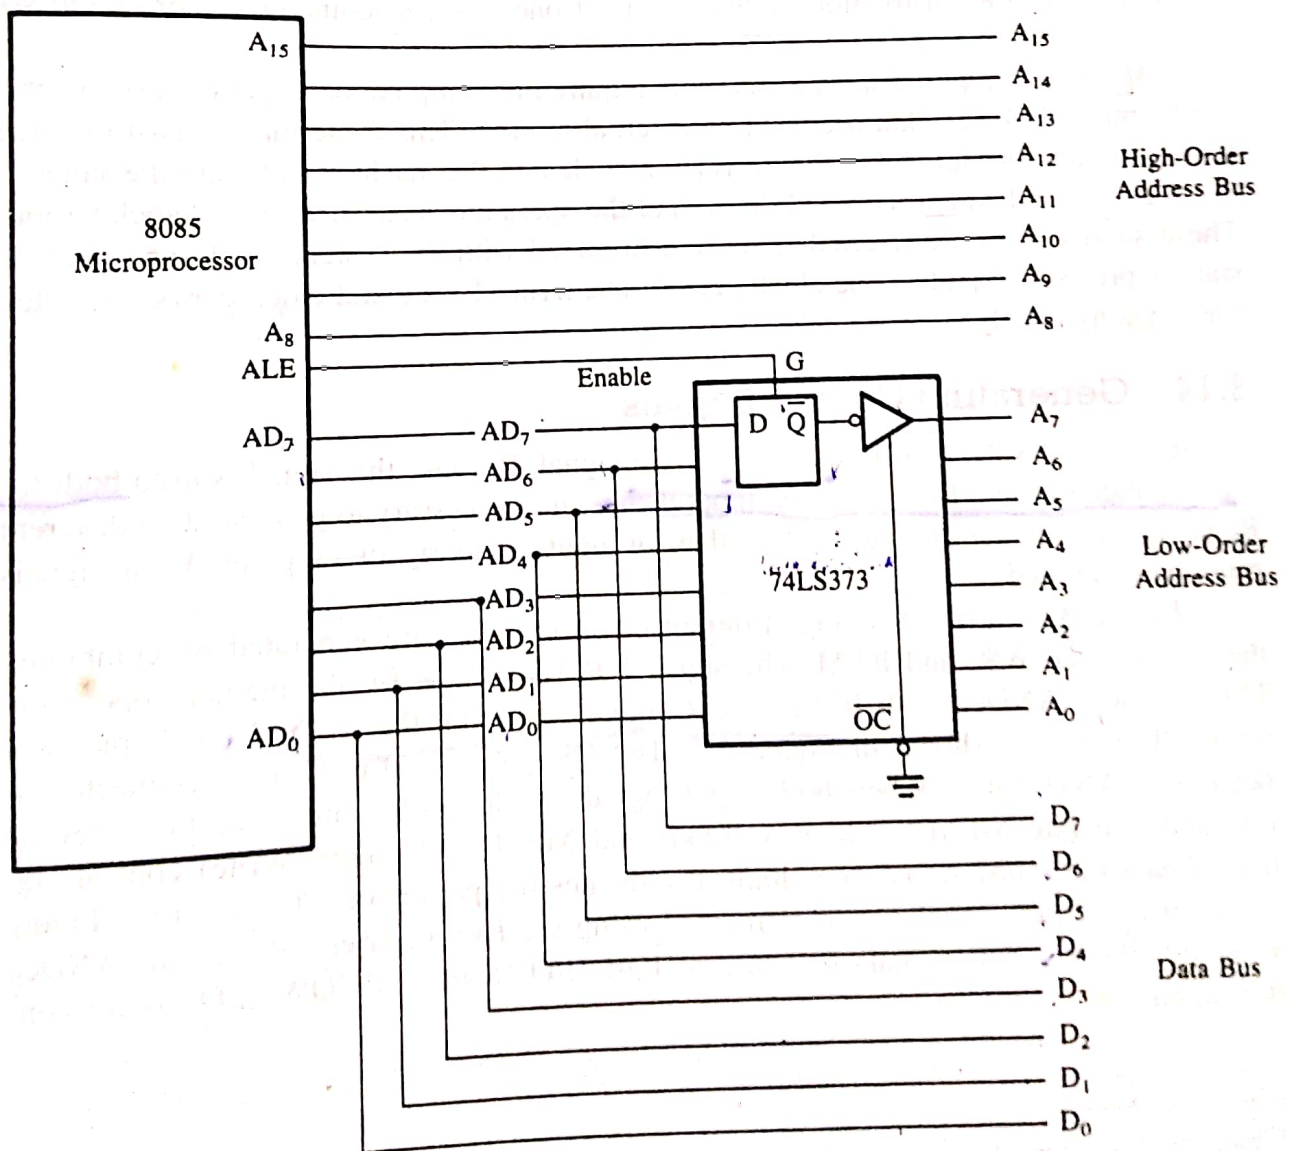

FIGURE 3.4
Figure 3.4 shows a schematic that uses a latch and the ALE signal to demultiplex the bus. The bus AD_7-AD_0 is connected as the input to the latch 74LS373. The ALE signal is connected to the Enable (G) pin of the latch, and the Output control (\overline{OC}) signal of the latch is grounded.